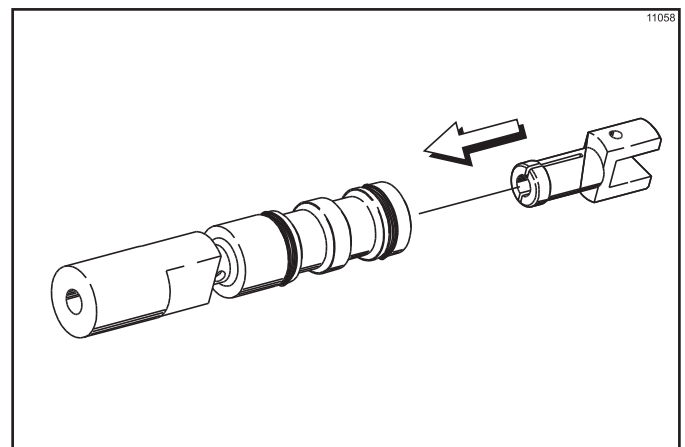

Figure 6-12
11. Squeezing the split end together, insert the driven spinner through the metal opening of the draw valve until it snaps into place. (See Figure 6-12.)